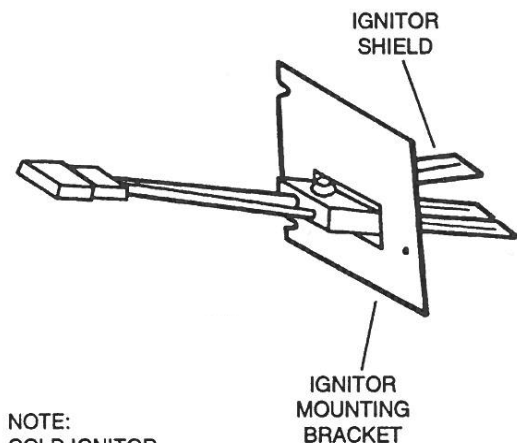

FIGURE 2
7. Carefully assemble the new ignitor and its shield onto the ignitor mounting bracket. See figure 2 for proper assembly.